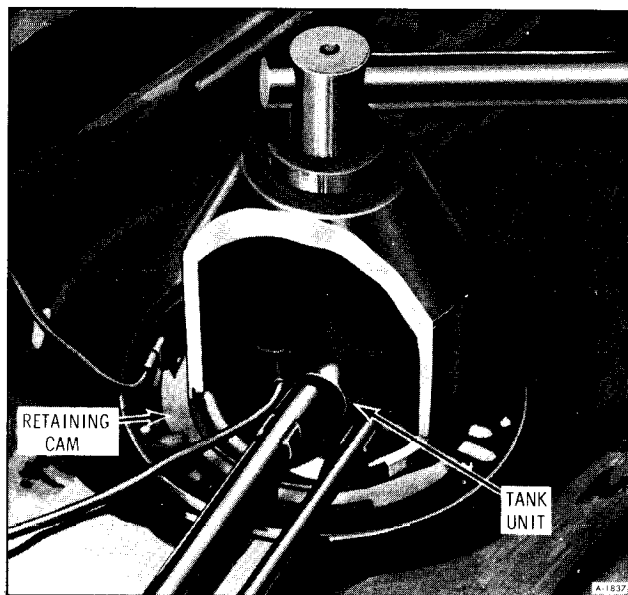

Figure 6—Removing Fuel Tank Gauge Unit
5. Using Tool J-24187 as illustrated in Figure 6. Remove fuel tank gauge unit.
2. Remove fuel gauge retaining cam, using Tool J-24187 (figure 6).